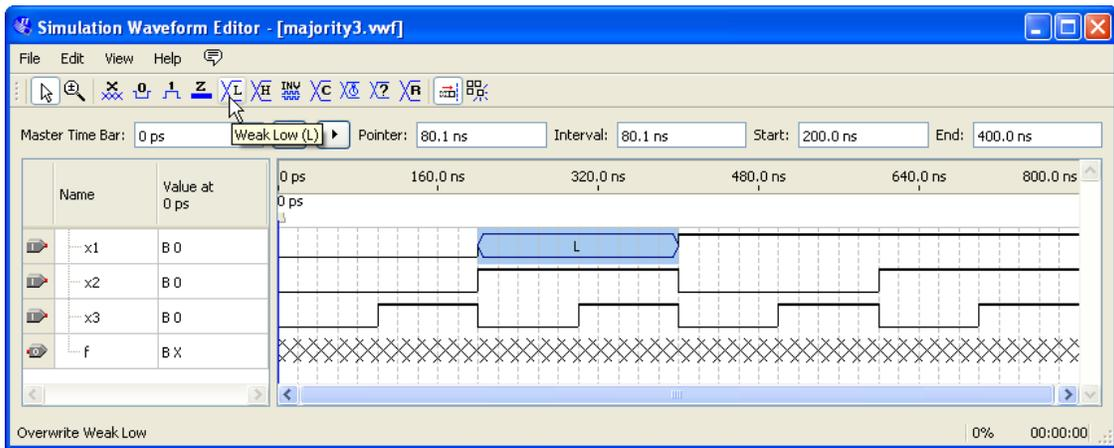

Figure 7. Changing the x1 signal to be weak low from 200 to 400 ns.
These tools are used to set a signal to the values Weak Low (L) or Weak High, which represents a circuit in which a bidirectional signal is pulled down or up by using a resistor. Examples are shown in Figures 7 and 8.